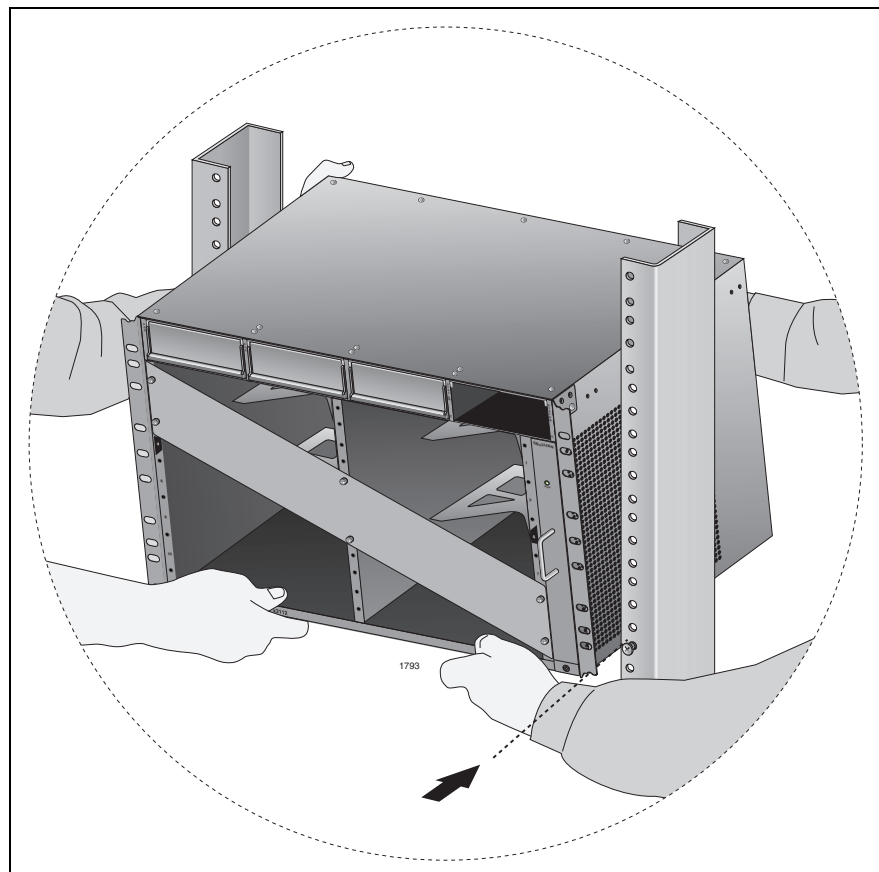

Figure 25. Lifting AT-SBx3112 Chassis into Place
In addition, do not mount any other equipment within 152.4 mm (6") above this space during installation. This additional vertical space is temporary and allows you enough room to lift and tilt the chassis into its position in the equipment rack without hitting other equipment - see Figure 25 on page 56. When the chassis is installed, this additional space is available for any other equipment that you may install.
1. While facing the front of the chassis, tilt the top of the chassis toward you as displayed in Figure 25.